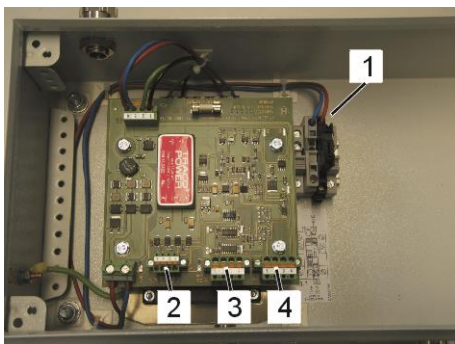

Fig.72: Connectors
- X2: Always connected by the manufacturer: Bus cable to indication unit (Fig.72/2)
- X3: Always connected by the manufacturer: Bus cable from Terminal box on the left of the Line Converter box (Fig.72/3)
- X4: Bus cable from Terminal box on the right of the Line Converter box (Fig.72/4)